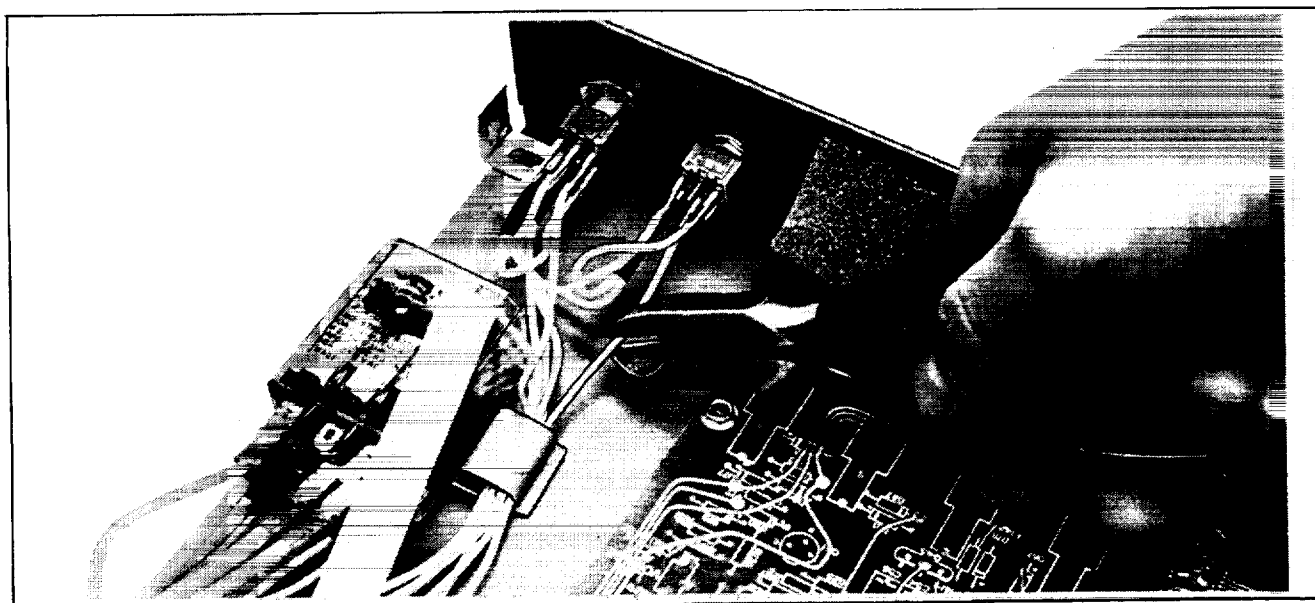

Figure 9. Cutting Lead 30
11. Cut lead 30 connected to Emergency Stop switch 2 in. (51 mm) from switch and strip ends ¼ in. (6 mm). See Figure 9. Use an insulink to connect both leads 30 to existing lead at Emergency Stop switch. Use ohmmeter to check for continuity from terminal 30 of overvoltage shut down board to lead 30 terminal at Emergency Stop switch.